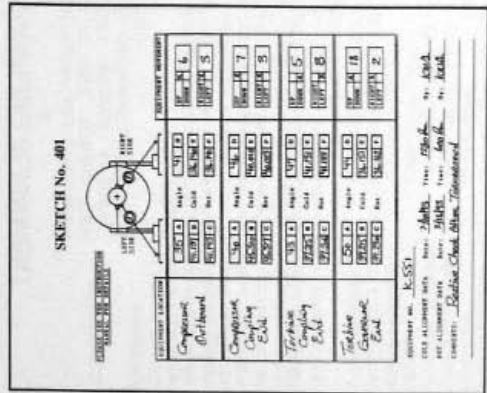

Figure 3
- Vertical and horizontal movements at each benchmark location (Fig. 3 or 4 on facing page).